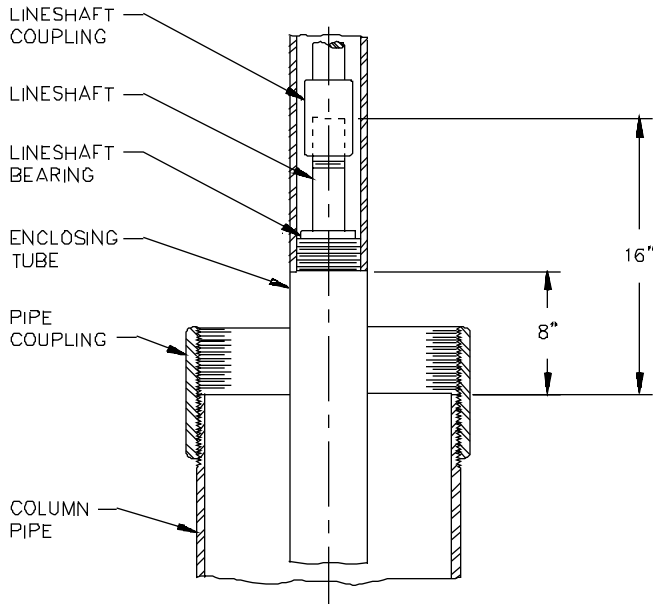

Fig. 6.2 Standard Enclosing Tube and Lineshaft Projection
- 17b. Enclosed lineshaft construction - Each time a length of column pipe is removed the enclosing tube (141) and lineshaft (172) must also be disassembled. Locate the joint (see Figure 6.2) and unscrew (LEFT HAND threads) the enclosing tube (141) from the lineshaft bearing (140) (which acts as a bearing for the shaft and also as an enclosing tube coupling). Leave the lineshaft bearing threaded into the enclosing tube not being removed (to support the lineshaft). Slide the enclosing tube up to expose the lineshaft coupling and uncouple as outlined in step 17a above.